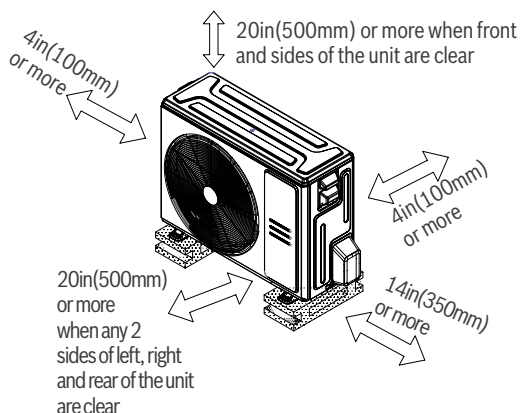

Figure 6
- Meets all spatial minimum requirements shown in Installation Space Requirements (Figure 6)
Make sure to meet minimum spatial requirement (Figure 6 & 13) to ensure there is enough room for installation and maintenance.